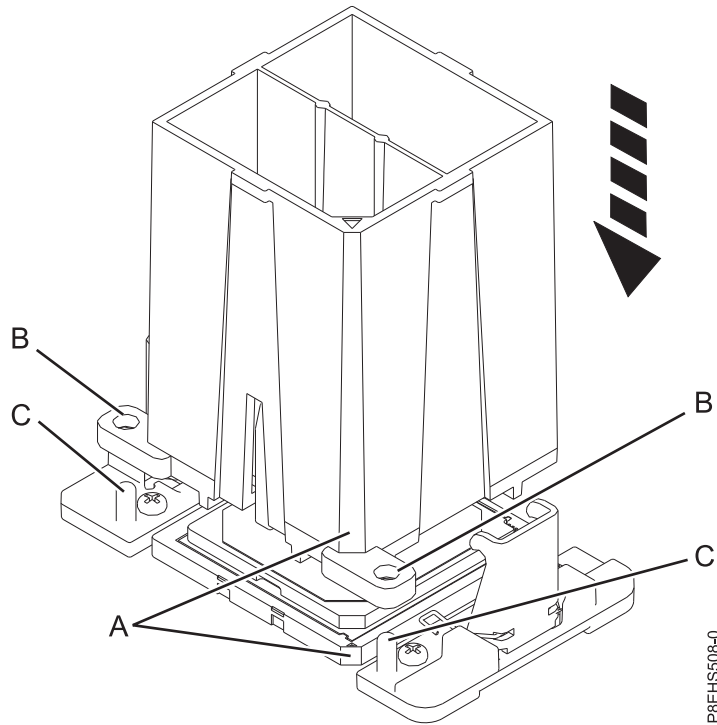

Figure 183. Lowering the removal tool onto the system processor module
- a. Using the supplied removal tool (part number 01AF101), align the beveled corner (A) of the tool over the beveled corner of the system processor module as shown in Figure 183 on page 160.
- b. Lower the tool over the system processor module by ensuring the two guide pins (C) are inserted into the alignment holes (B) on each side of the tool.